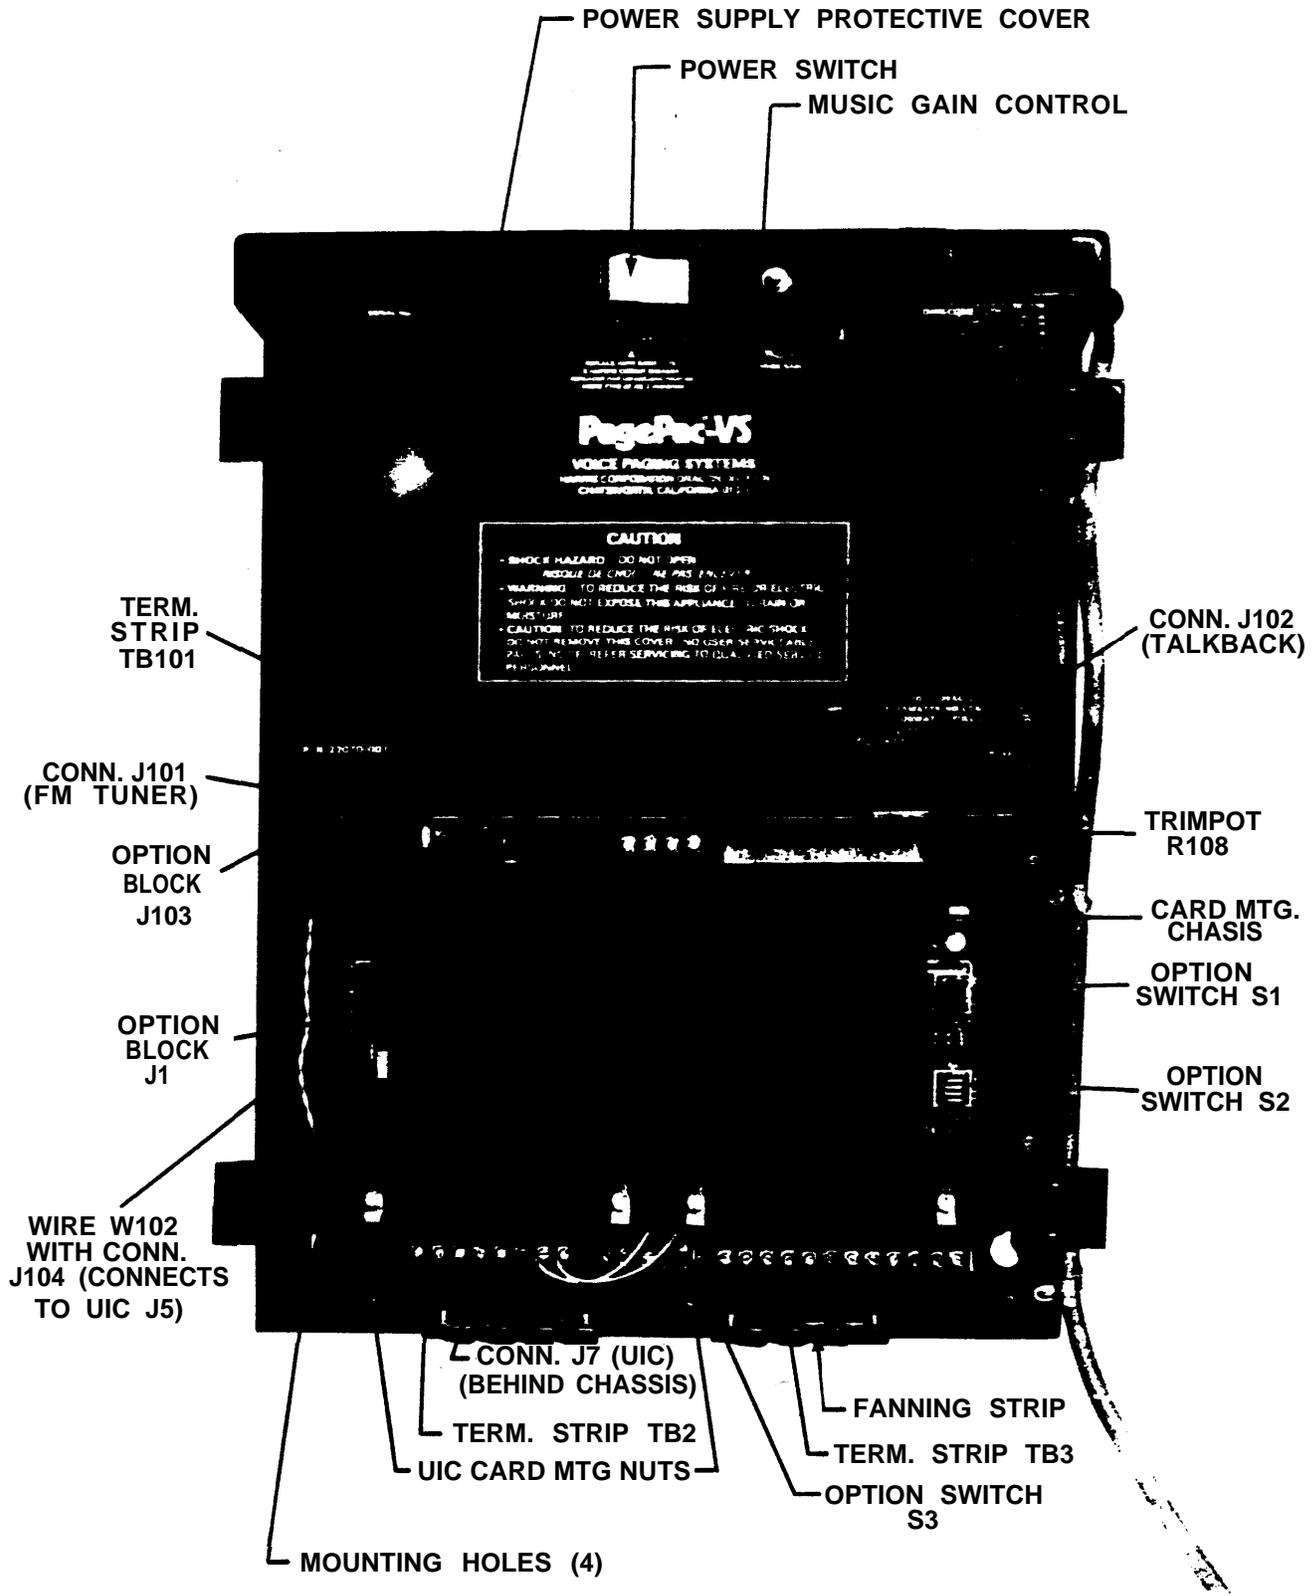
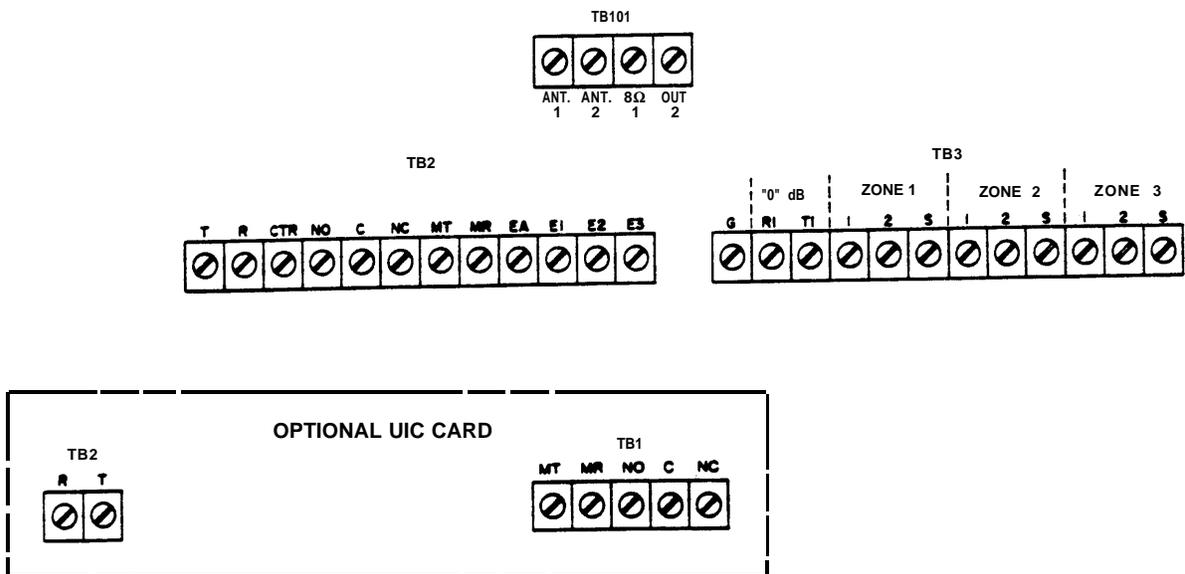

Fig. 2—PagePac® VS Without Optional Cards and With Cover Removed
Fig. 7—Terminal Strip Layouts
3.01 Most internal components of the PagePac®-VS are located on a single PC board supported by an aluminum backplate. Access to the power section on the upper portion of the printed circuit board is restricted by a metal cover. The -24V dc power supply powers the telephone interface circuitry and the plug-in option cards. Connections for the optional Talk-Back Control and FM Tuner Cards are provided by a 12" x 6" metal chassis equipped with plug-in connectors and a terminal strip. This chassis sits atop the lower portion of the main PC board. The Universal Interface Card mounts on the aluminum backplate below the PC board. The whole assembly is enclosed by a decorative plastic cover. The cover is attached to the chassis by magnetic fasteners. See Fig. 2.
3.02 The PagePac®-VS is designed to be backboard mounted only. The chassis backplate has four keyholes that are used for mounting the unit. (See Fig. 2). A cardboard template is provided with each unit to assist in placing the mounting screws.
3.06 The UIC also contains a ring detector and ringtrip circuit. When the UIC is accessed from a PABX station circuit, the connection is maintained by a voice activated switch (VOX). In non-talk-back zones, a VOX on the UIC disconnects the page originator if he does not speak for 4 or 8 seconds. Option strap J103 determines this timeout interval. When the optional talk-back control card is installed and the zone is optioned for talk-back, a VOX on the talk-back card overrides the UIC VOX. If the originator’s voice is not present for 4 to 20 seconds, the unit will disconnect. Trimpot R108 (Fig. 2) selects the timeout interval. It comes factory preset at approximately 12 seconds.
3.07 The UIC is mounted on the PagePac® VS backplate below the PC board and plugs into connector J7. See Fig. 2. It has two screw-type terminal strips, TB1 and TB2. TB1 has five screw terminals, **MT** and **MR** are for connecting an external music source, if provided, **n.o.c** and **n.c.**, a form C relay contact, may be used to light a busy lamp. The relay will operate when either a loop is closed across tip and ring or when any zone is selected. TB2 is for connecting the tip and ring leads from the telephone system.
3.08 The optional talk-back feature is provided by either the Standard Talk-Back Control Card or the Adjustable-Gain Talk-Back Control Card. Either card provides two-way communications between the telephone and the paging loudspeakers. The Adjustable-Gain Talk-Back Control Card allows adjustment of the talk-back signal level to the paging telephone to compensate for high ambient noise levels in the paging zone. With talk-back, the installer can select which zones, including all-call, are to have the talk-back feature or one-way paging. Both cards provide a single one-second tone burst when the zone is first seized, as well as a repetitive alerting tone, to prevent the talk-back feature from being used as a covert monitoring device. The repetitive tone is available at either a 15- or 30-second interval. A Talk-Back Continuity Card must be plugged into talk-back connector J102 whenever a talk-back control card is not provided. See Fig. 2.
Basic PagePac® VS Unit (Fig. 2)
- (1) Set the **POWER** switch to **OFF** and do not plug in the ac power cord at this time.
- (2) Determine the location of the option pins and switches by referring to Fig. 2 and 6 and strap the desired options on the option block in accordance with Table E.
- (3) Refer to Table F and set option switches S1 and S3 to the desired positions.
- (4) Refer to Fig. 7 to determine the location of the various terminal strips and the designations of the terminals.
(1) Turn the music gain down by turning the **MUSIC GAIN** control at the top of the unit (Fig. 2) fully counterclockwise.
(2) Plug the power cord into the 117v ac outlet.
(3) Set the **POWER** switch (Fig. 2) to **ON**. The switch should illuminate.
(4) If an external music source is provided, adjust the **MUSIC GAIN** for an acceptable music level in the paging zones.